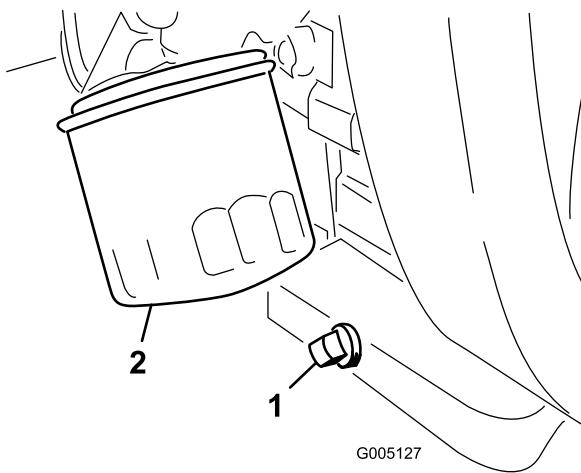

Figure 30
1. Remove the drain plug (Figure 30) and let the oil flow into a drain pan.
- Clean the threads of the drain plug, apply PTFE sealant, and install the drain plug (Figure 30).
- Remove the oil filter (Figure 30).